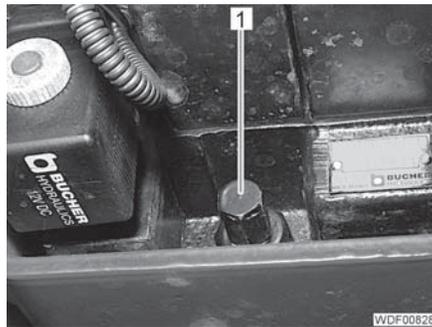

Fig. 30 Cover
- Unscrew the cap (Fig. 30,1) from the primary pressure control valve on the control valve.
- Screw the cap (Fig. 30,1) onto the primary pressure control valve and tighten it.